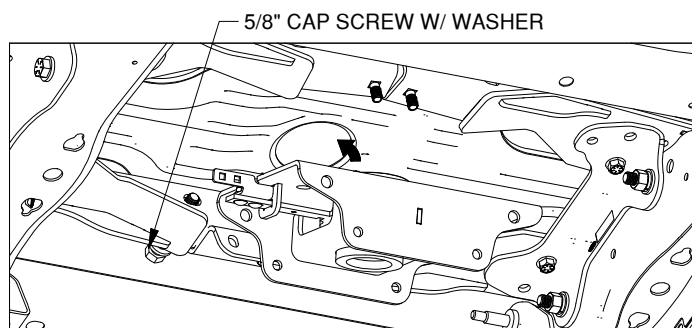

Figure D2: View looking up under the truck bed.
- Position center section.** Place a 5/8" x 4-1/2" cap screw with a 5/8" washer into the driver side cross member so the threaded side is flush with the outside of the cross member. With the latching mechanism on the drive side, raise the center section up under the 4" hole, see Figure D2. Align the hole in the front of the center section with the 5/8" cap screw and push the cap screw through the center section. Loosely secure the cap screw with a 5/8" lock washer and nut.